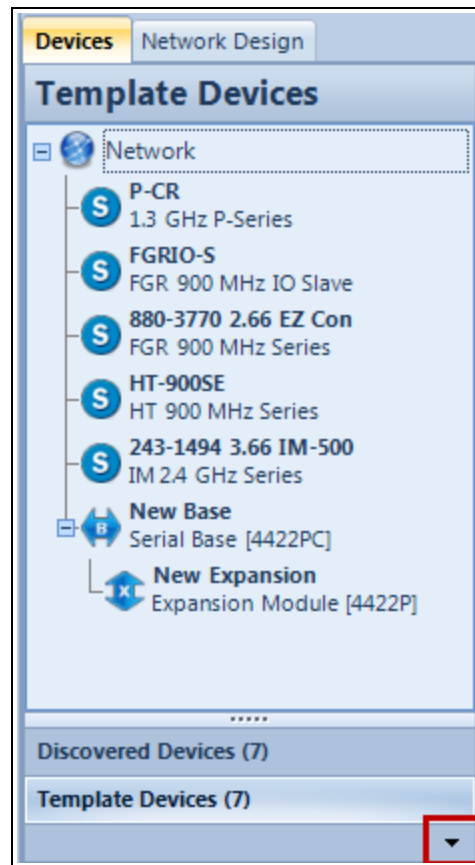

Figure 19: Device tab - Accordion button
- To change between the two views, click the corresponding accordion button at the bottom of the pane. Figure 19